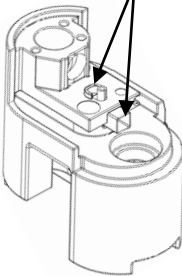

Figure 2
2. Prior to reassembly, the Upper Case assembly must be lubricated using a lubricant conforming to Department of Defense MIL-G21164. See Figure 2 for lubrication points.